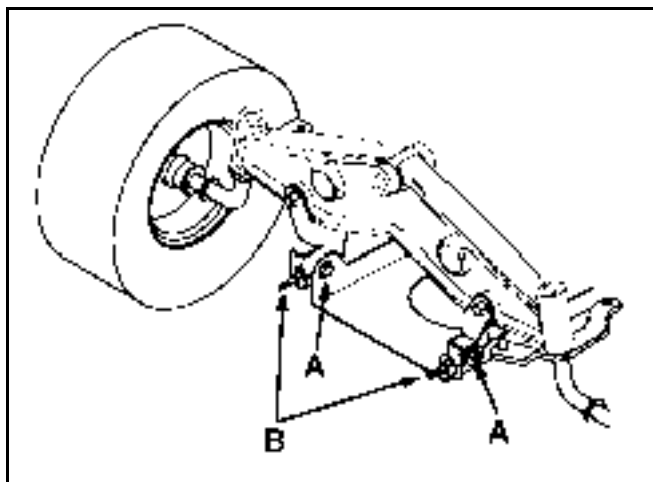

Figure 226
7. To adjust front-to-rear blade slope loosen front pivot plate mounting bolts slightly (Figure 226).
8. Rotate lock nuts on eyebolts to change adjustment (Figure 226). To raise the front of the mower, tighten the eyebolt lock nuts. To lower the front of the mower, loosen the eyebolt lock nuts.
9. After adjusting both eyebolt lock nuts evenly, check the front-to-rear slope again. Continue adjusting eyebolts until the front blade tip is 1/8" - 3/8" (3 - 9mm) lower than the rear blade tip (Figure 226).
- When front-to-rear slope is correct, tighten the pivot plate mounting bolts (Figure 226).